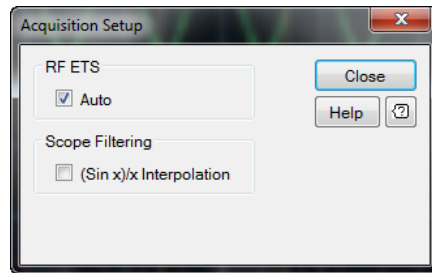

Figure 2-26 Acquisition Setup dialog
- 2 The Acquisition Setup dialog is displayed as shown in Figure 2-26. Select the **Auto** check box to enable the auto-ETS feature. Select the **(Sin x)/x Interpolation** check box to allow 1 GHz analog bandwidth verification.